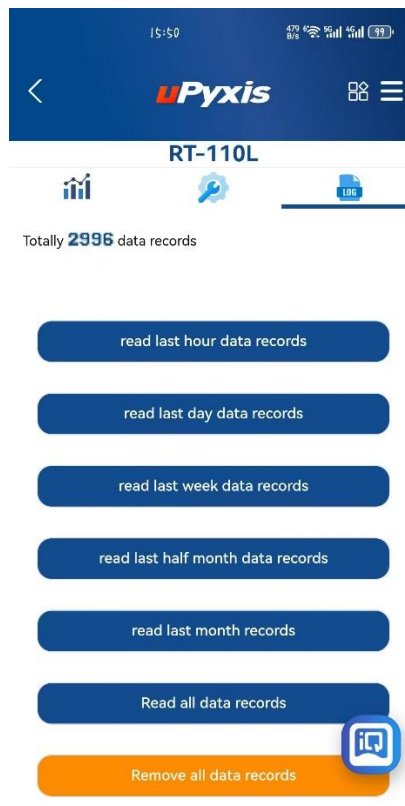

Figure 23. – Data Log
- 6) Select Connect via USB-RS485 (Figure 23).